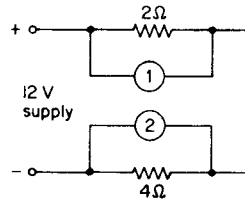

Fig. 2.107
35. Find the readings of each of the instruments shown in Fig. 2.107.